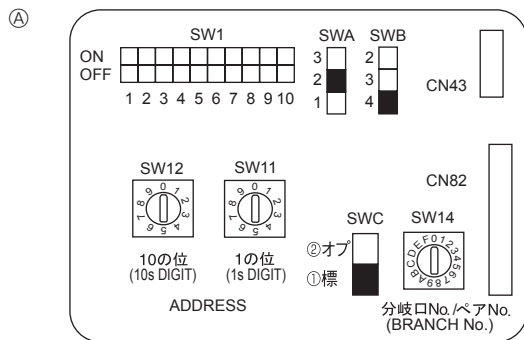

Fig. 5-4
5.5. Setting addresses (Fig. 5-4)
- ① How to set addresses
- ② How to set branch numbers SW14
- (A) Address board
5.6. Switch setting for high ceiling or at the time of changing the number of air outlets (Fig. 5-4)
④	4 direction	2.5 m	2.7 m	3.5 m
③	3 direction	2.7 m	3.0 m	3.5 m
②	2 direction	3.0 m	3.3 m	3.5 m
5.7. Sensing room temperature with the built-in sensor in a remote controller (Fig. 5-4)